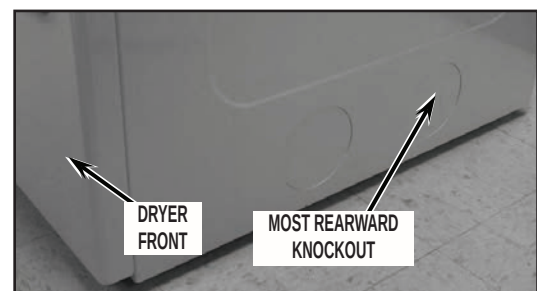

FIGURE 23
1. As you are facing the dryer, review the lower section of the right side panel. If two (2) knockout features are present (*Figure 23*) remove the REAR MOST KNOCKOUT ONLY.